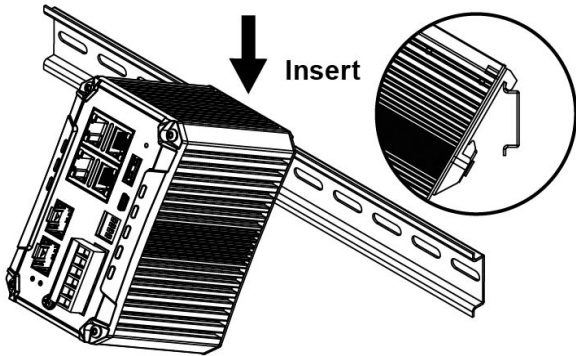

Figure 3.2 - Insert the Switch on the DIN-Rail
3. After the DIN-Rail bracket is installed on the rear side of the switch, insert the top of the DIN-Rail onto the track as shown below in *Figure 3.2*.